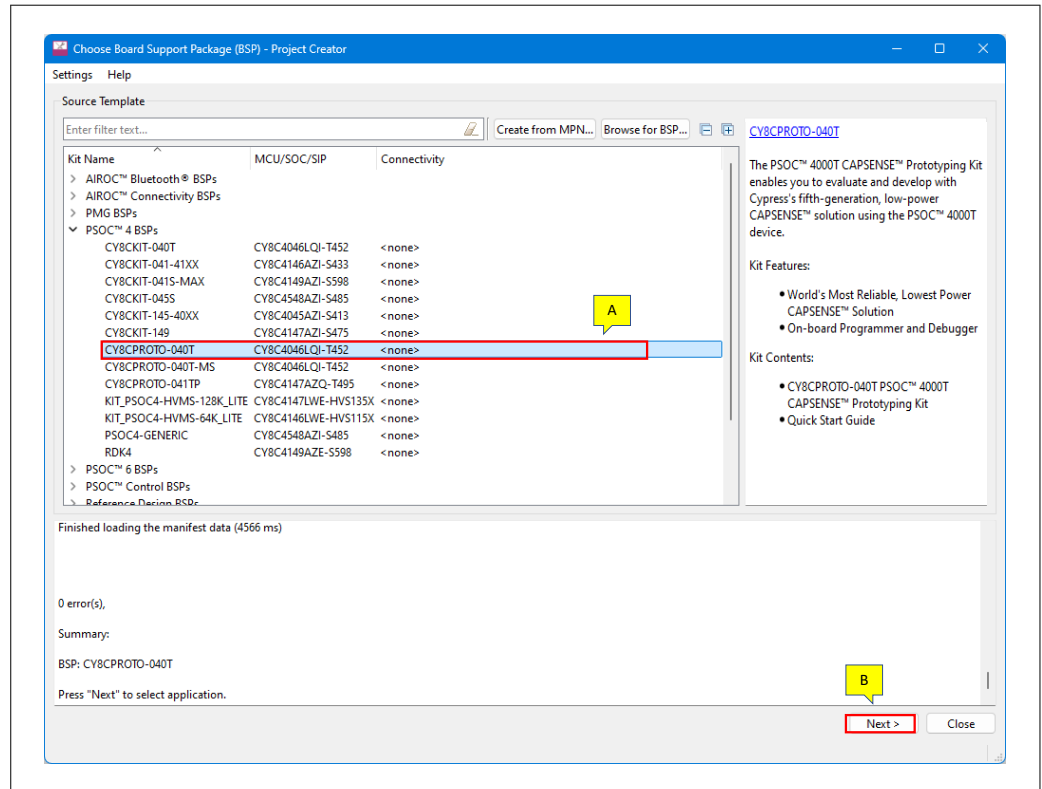

Figure 14 Choose target hardware
- a. In the **Choose Board Support Package (BSP)** dialog, choose the **Kit Name** that you have. The steps that follow use **CY8CPROTO-040T**. See Figure 14 for help with this step